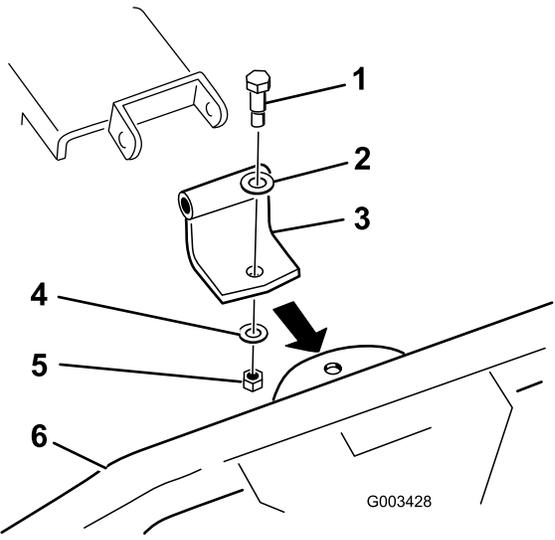

Figure 3
- Use the curved pivot bracket, as shown in Figure 3, if the bracket on the end of the tooth rake faces upward.